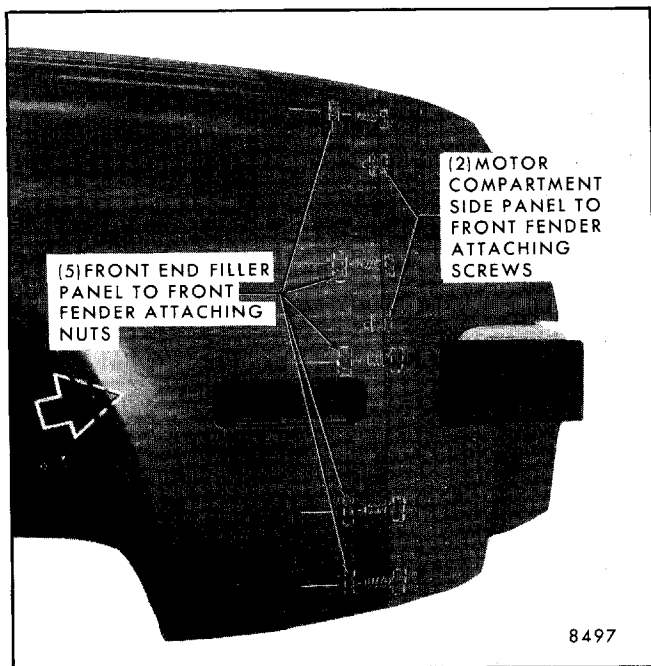

Fig. 4-33-Front of Front Fender Attachments
3. Working between front inner wheelhouse and front fender (at front), remove front end filler panel to front fender attaching nuts (Fig. 4-33).